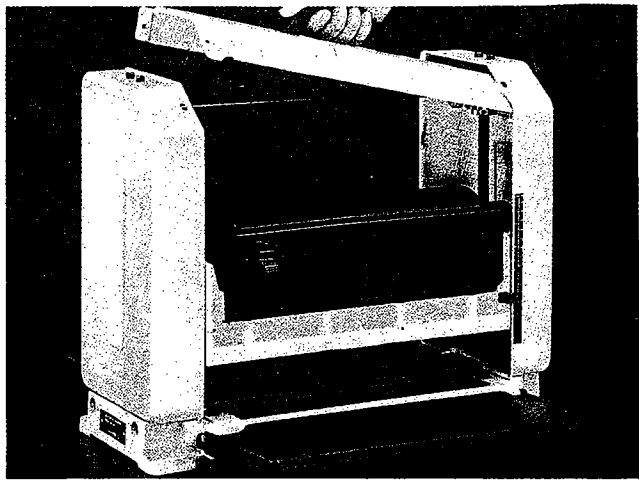

Fig.7
1. Remove eight cap screws on top cover. (Fig. 7)
2. Remove top cover by pushing to right and lifting left side up and out. (Fig.7)